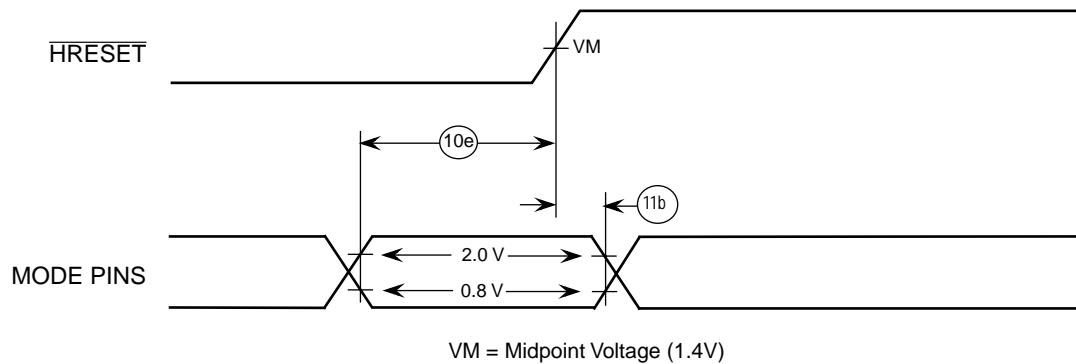

Figure 9. Input Timing Diagram for Mode Select Signals
- 4 All mode select input signals specifications are measured from the TTL level (0.8 or 2.0 V) of the signal in question to the $V_M = 1.4$ V of the rising edge of the HRESET \bar signal. See Figure 9.
Figure 9 shows input timing for mode select signals.